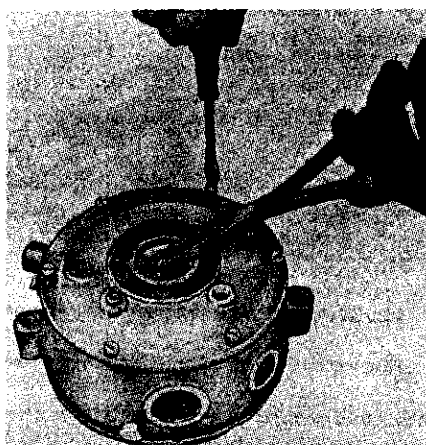

Fig. 117—Pull up on diaphragm with pliers while tightening cover retaining screws.
over the pins with gasket ears over the primary cover (38) mounting screws. Mount the secondary diaphragm assembly on pins with button against valve lever. Place cover (8) on pins so that it will be right side up when mounted on tractor and install three retaining screws. Remove the alignment pins and install the other three screws. Refer to Fig. 117 and tighten cover retaining screws while pulling up on diaphragm screw (9—Fig. 110) with pliers. Reinstall primer coil assembly and connect to 12-volt battery to check